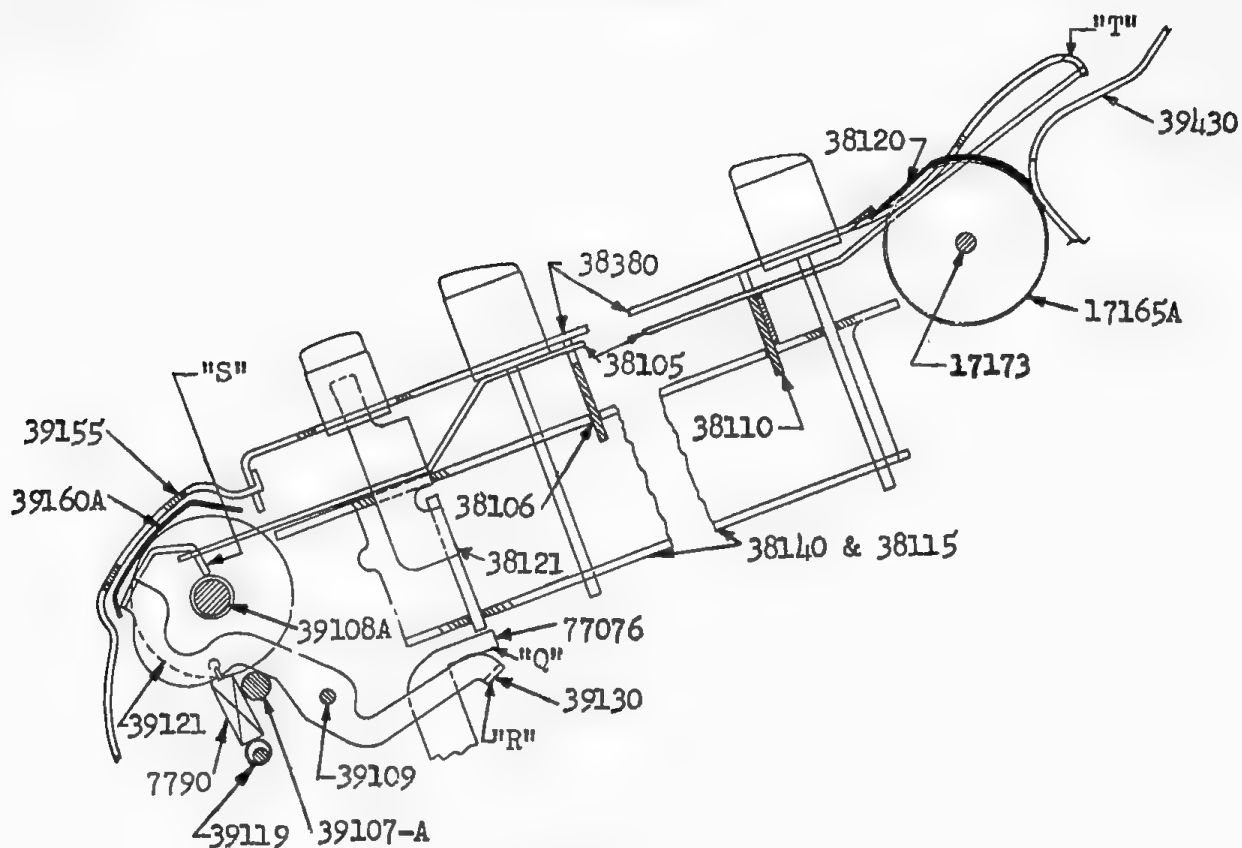

FIG. 80
1. (Fig. 80). When a Decimal Key-38121 is depressed it lowers the Lower Tab Key-77076 as previously explained. Surface "Q" on 77076 overlies ear "R" on the Front Dial Decimal-39130 so that 39130 is rocked clockwise,
2. (Fig. 80). The Front Dial Decimal-39130 has a lug "S" on its upper end which engages a slot in the Decimal Bar 38105. When 39130 rocks clockwise it moves Bar-38105, which is guided by Guide-38106 and slots in the Check Dial Cover-38120, rear-